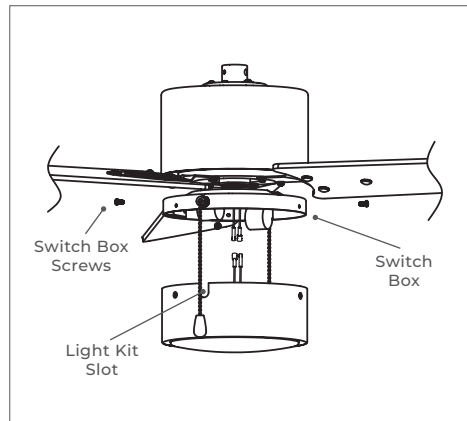

FIGURE 8
C) Loosen and save the 3 screws on the switch box. Locate light kit. Connect wire sockets from light kit and motor. Place light kit onto switch box. Align slots in light kit with switches on switch box. Secure with 3 screws loosened previously. (Figure 8)